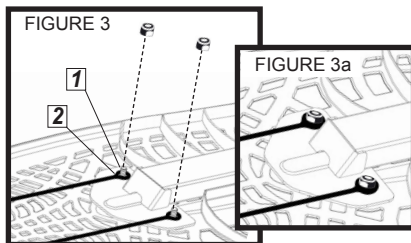

FIGURE 3
- Reaching underneath, insert one of the shorter bolts through an upper hole in the Upper Portion and Bed Frame Extension Loop. Hand-tighten with a nut (Figure 3 & 3a).